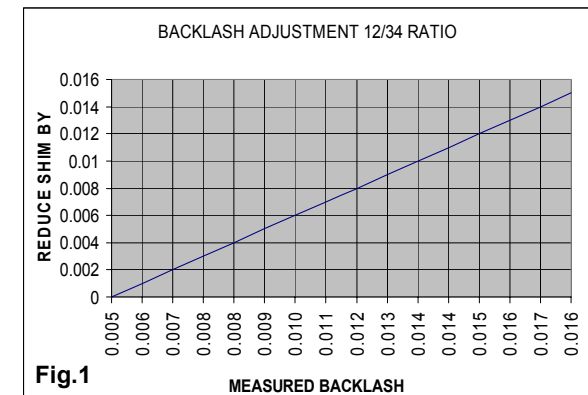

Fig.1
If the minimum reading is outside of what is specified on the spiral bevel setup card, alter the shim (21) inside the maincase. Increasing the shim thickness will reduce the backlash, decreasing it will increase the backlash. (See Fig.1)